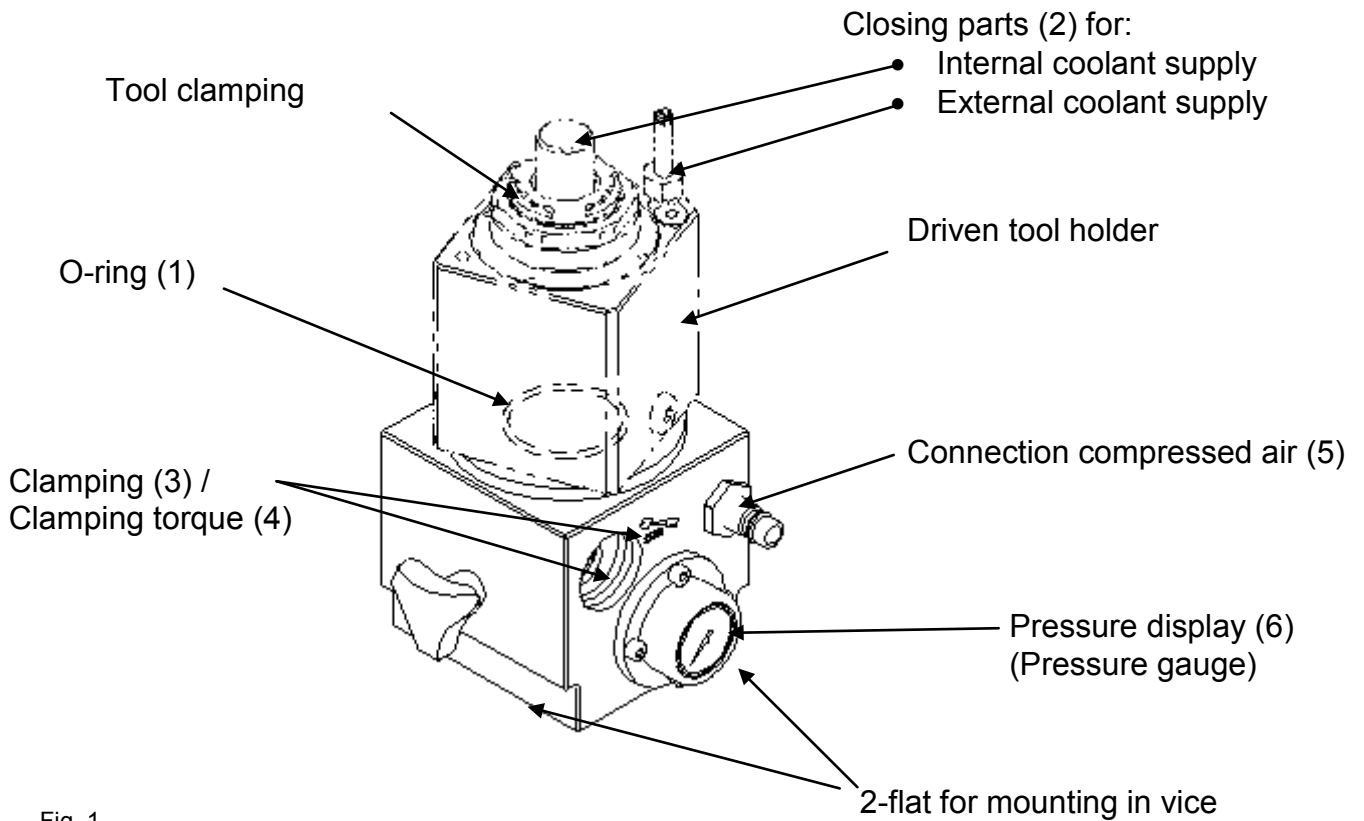

Fig. 1
- Insert the driven tool holder into the test fixture as shown in Fig.1.
- Tighten the clamp (3) to the prescribed torque (4).
- Connect compressed air (2 bar) to the connection of the testing device (5). Allow the pressure to build up for 1 minute and turn the tool holder by hand.